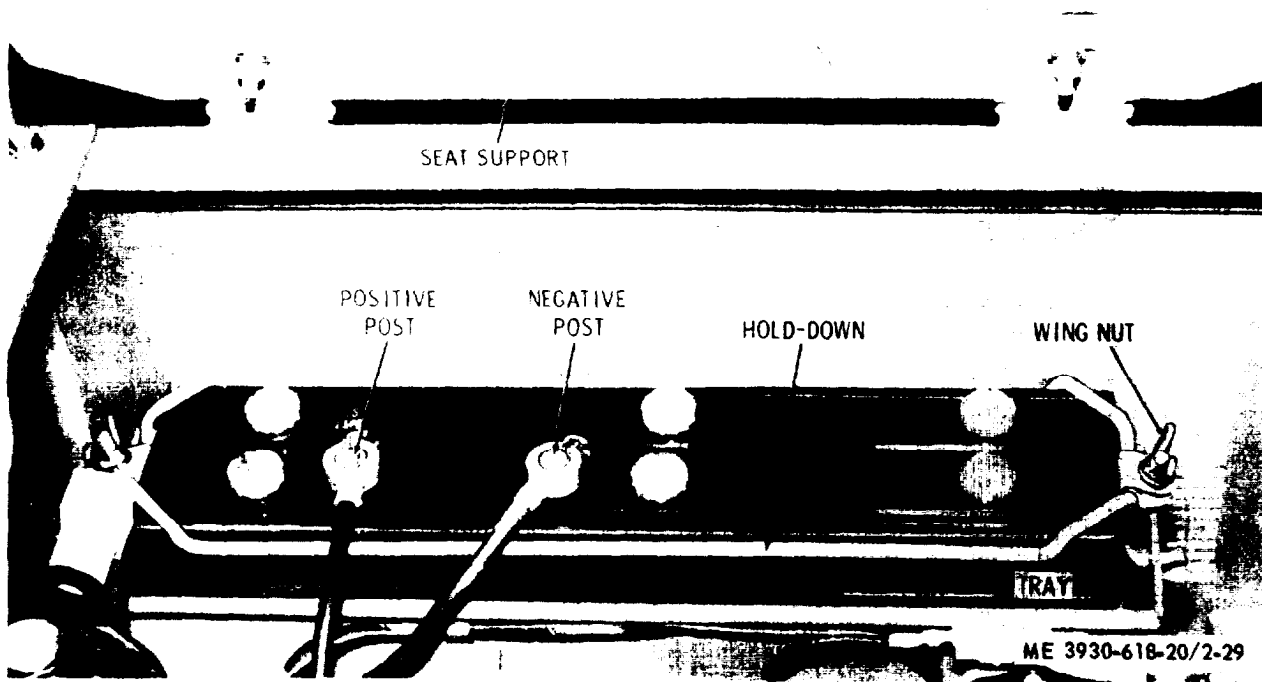

Figure 2-29. Battery and cables, installed view.
a. *Removal.* Refer to figure 2-29 and remove the battery as follows:
- (1) Remove the operator's seat.
- (2) Remove the wingnuts from the holddown studs and remove the battery holddown.
- (3) Remove both cables from the battery posts. To prevent accidental damage to the battery posts or cable terminals, use a cable terminal puller tool to remove the cables.
- (4) Tilt the battery towards the rear of the truck and lift it out of the battery tray.